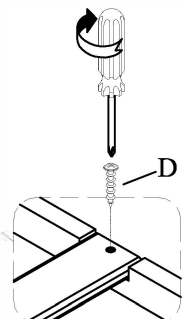

FIGURE 3
- STEP 4. Mount the assembled support slats onto the side rail with screws (D). Then use a Phillips head screwdriver to tighten screws. See Figure 3.